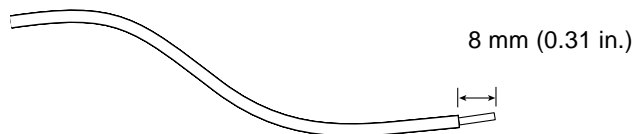

FIGURE 3-1 Stripping the Insulation From the Wire
5. Strip 8mm (0.31 inches) of insulation from each of the wires coming from the DC power source (see FIGURE 3-1).